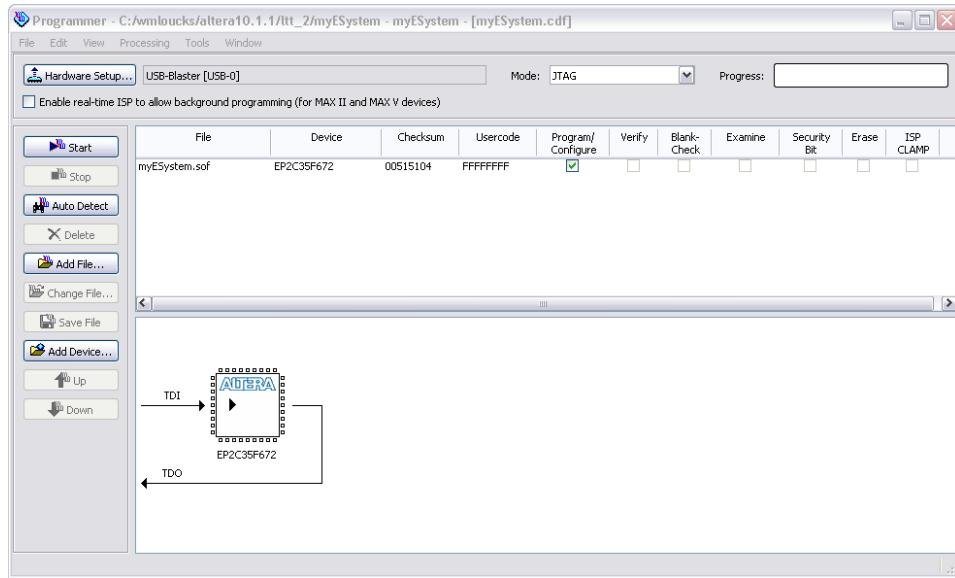

Figure A.8: JTAG Chain
2. Normally the Programmer window opens the Chain Description File (.cdf), as shown in Figure A.8 associated with your design⁶.
13. In the Programmer window, turn on **Program/Configure**. See Figure A.8.